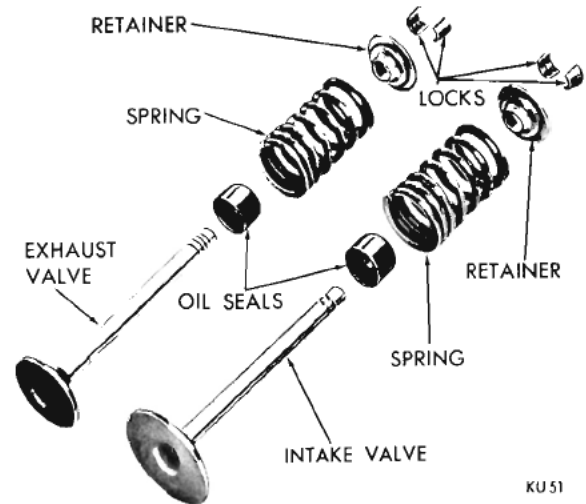

Fig. 78—Valve Assembly (Disassembled View)
(1) Coat the valve stems with lubricating oil and insert them in position in the cylinder head.
(2) Install new cup seals on the intake and exhaust valve stems and other valve guides, as shown in Figure 78 and 79 and install valve springs and retainers.
(3) Compress the valve springs with Tool C-3422A. Install locks and release tool.